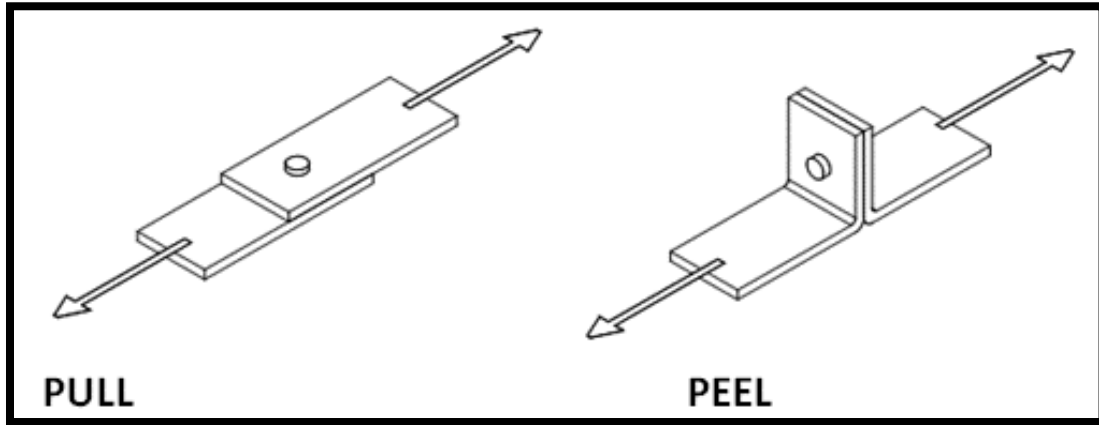

Figure 11 Pull - Peel Layout
1. There are two ways to measure the strength of a Clinchlok joint, pull and peel (see Figure 11 Pull - Peel Layout).